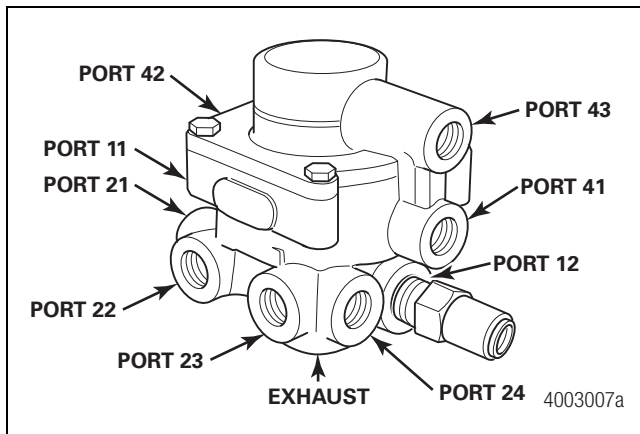

Figure 3
2. Connect the air lines as indicated in Table A. Valve ports are identified in Figure 3.